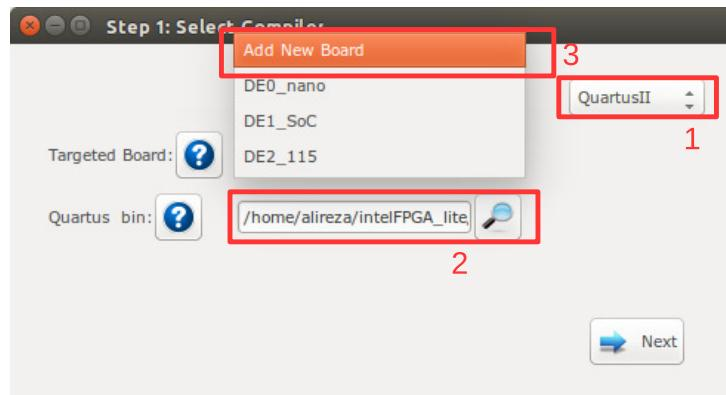

Figure 5.22: Select QuartusII as compiler.
1. Press Compile RTL button in right down corner. This should open "select compiler window" as shown in Figure 5.22. Select QuartusII or Vivado as the compiler tool depend on your FPGA vendor.